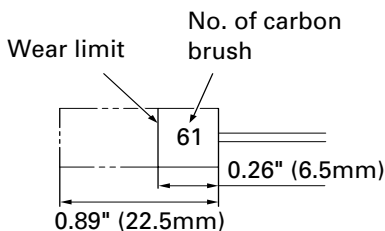

Fig. 6
4. Inspecting the carbon brushes (Fig. 6)
NOTE: Use HITACHI carbon brush No. 61 indicated in Fig. 6.